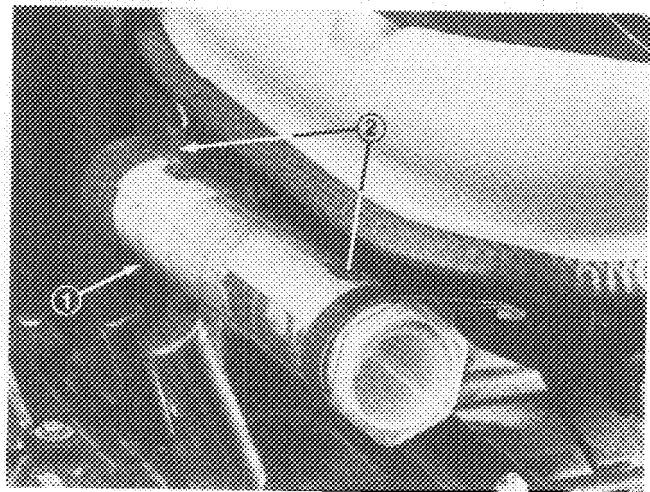

Figure 9
- Loosely mount (2) R-clamps to outer holes in right side of seat with (2) capscrews and flatwashers (supplied with seat kit) (Fig. 9).